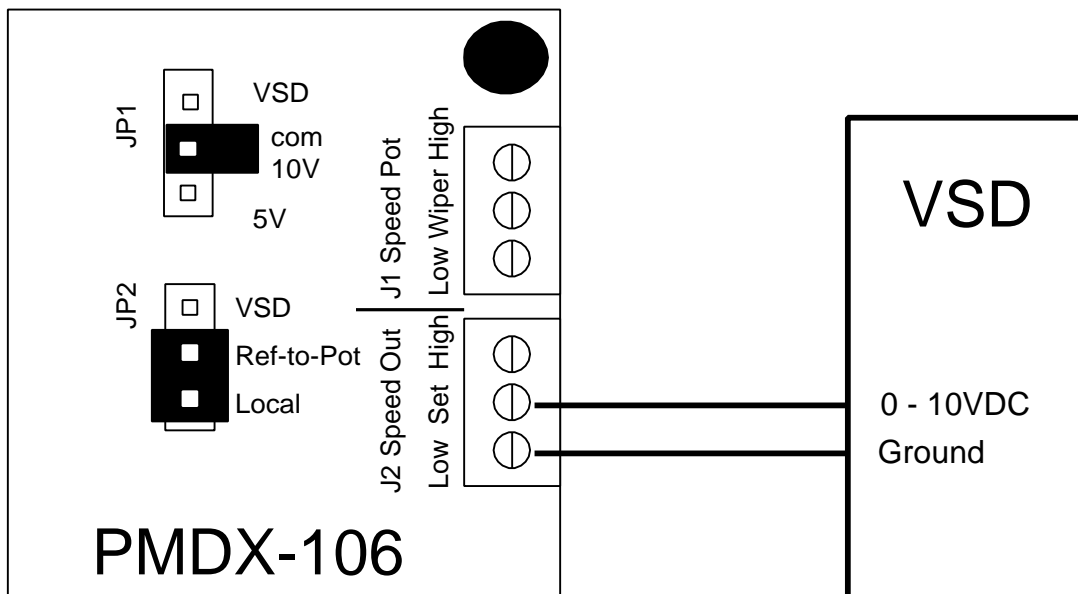

Figure 6 - Example 0V to 10V VSD Connections & Jumper Settings
- 0 to +10V The VSD expects an analog voltage between 0 and +10V, where +10V is full speed. In this case, the PMDX-106 provides the +10V reference for its analog output circuit. See Figure 6 for an example of the jumper settings and VSD connections for this configuration.